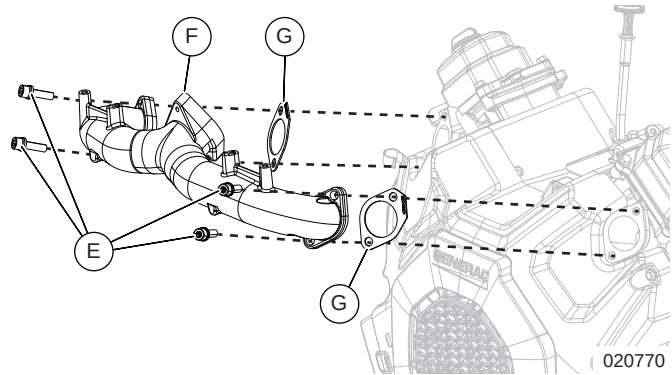

Figure 6-14. Remove Intake Manifold
2. Remove exhaust manifold (D).
3. Discard old gaskets (C). Always use new gaskets when assembling.
4. See Figure 6-14. Remove four bolts (E) and intake manifold (F) from the cylinder heads. Discard intake manifold gaskets (G).